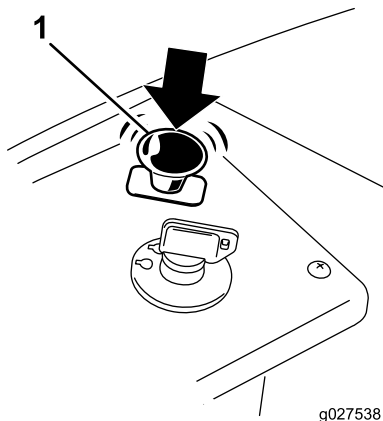

Figure 12
1. Disengage the blades by pushing the blade-control switch to OFF (Figure 12).